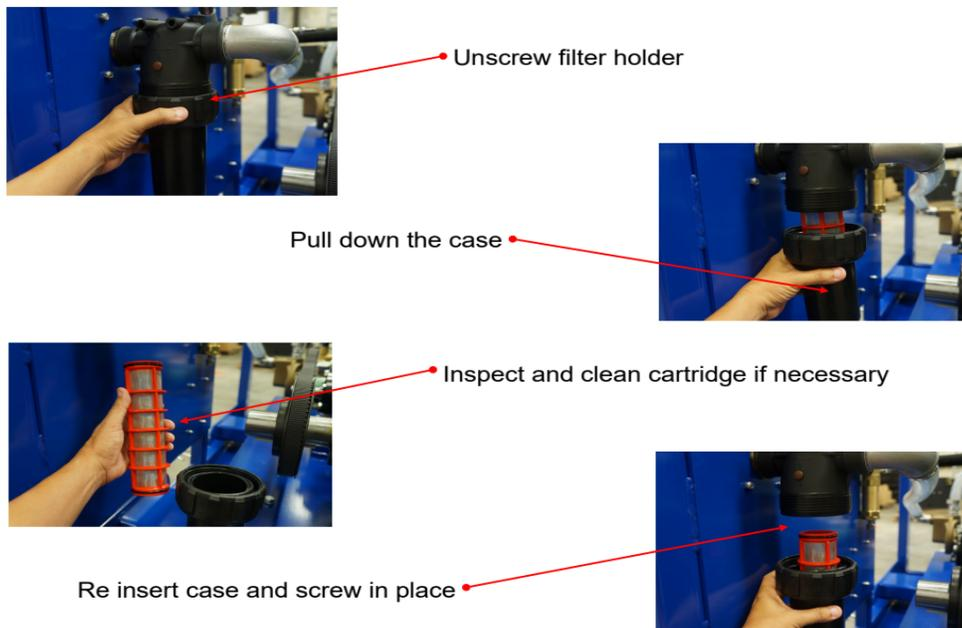

Figure 6.1 – Inspection / Cleaning Water Filter
- 3) Inspect the inline strainer to ensure that it is not clogged (See Figure 6.1). Clean if necessary.
2. Unscrew the filter bowl from the filter housing (turn CCW) (See Figure 6.1).